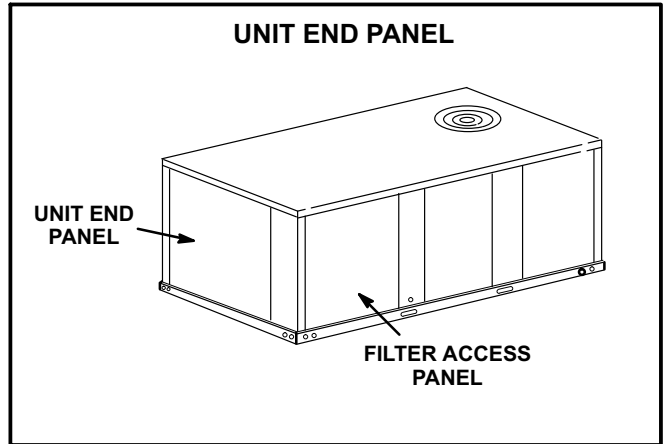

FIGURE 1
- 2- Remove or open unit end panel. See figure 1.